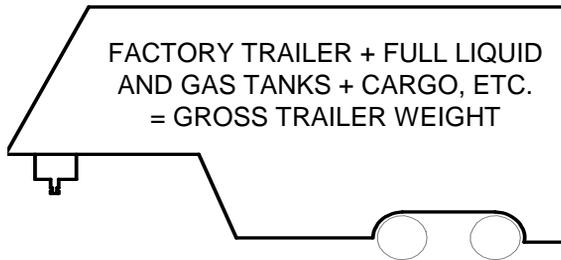

Figure 2
- Tow vehicle must have a manufacturer’s rated towing capacity equal to or greater than the gross trailer weight (dry weight of the trailer plus payload of the trailer). (Figure 2)
Gross Trailer Weight (**Figure 2**): _____.